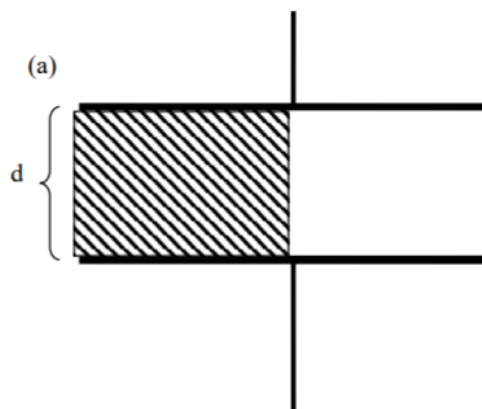

Figure 2
For figure 2, since the capacitor plates are at the same potential, the capacitor is similar to two capacitors connected in parallel with half area each.
- a. Insert material as in figure 2
This part of the experiment aims to find a general formula for calculating the capacitance of the partially filled capacitor. The experiment will be restricted to partial fullness as in figure 2 (there will be no air between plate and the edge of the insulator). The result of this part is to find linear dependence between partial fullness and capacitance of the capacitor.